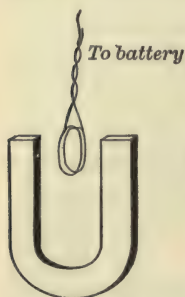

FIG. 101. — The coil turns in such a way that its north pole is opposite the south pole of the magnet.
It is easy to see that long-continued rotation would be impossible in the arrangement of Figure 101, since the twisting of the suspending wire would interfere with free motion. In
**The dynamo.**—Between the poles of a strong magnet suspend a movable coil which is connected with a sensitive galvanometer (Fig. 107). Starting with the coil in the position of Figure 101, when many lines of force pass through it, let the coil be rotated quickly until it reaches the position indicated in Figure 107, when no lines of force pass through it. During the motion of